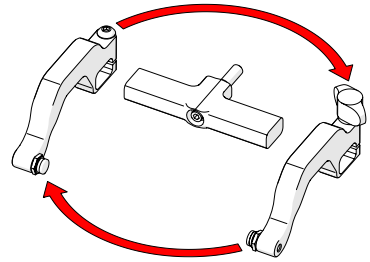

Fig. 165 - Reverse position around yoke
4. Position removed arms to opposite sides of the yoke (Fig. 165).